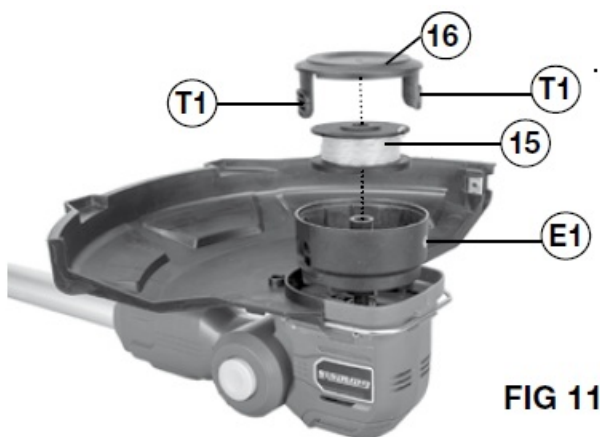

FIG 11
SPOOL REPLACEMENT (FIG 11)
CUTTING TIPS (FIG 11)
- Avoid cutting in the dangerous area shown in FIG 11.